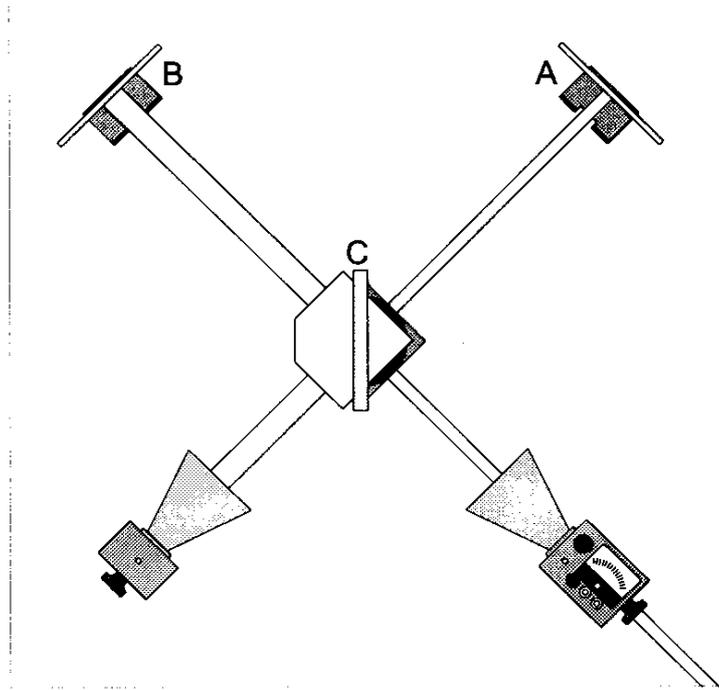

Figure 5.5: Michelson Interferometer
1. Arrange the equipment as shown in Figure 5.5. Plug in the Transmitter and adjust the Receiver for an easily readable signal.